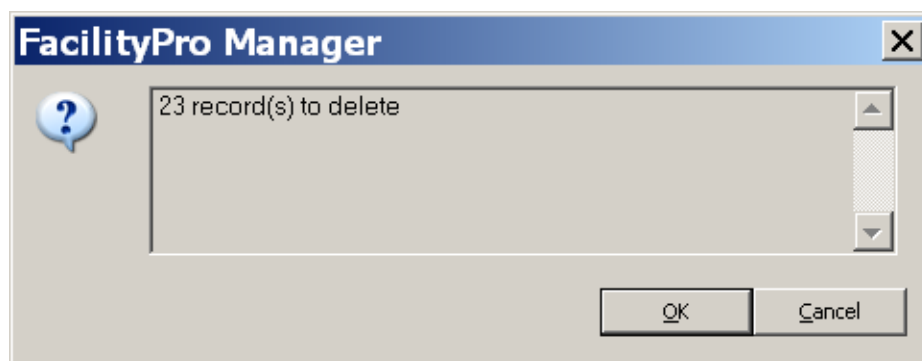

Figure 8-5 Records to delete
6. Click **OK**. You will see a message as in Figure 8-5.